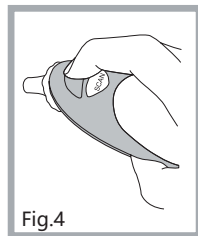

Fig.4
After taking a measurement, press the EJECT button to release the probe cover (see Fig. 4). Before each measurement, please ensure to use a new and clean probe cover.
3. The thermometer display will show three short dashes with a flashing °C or °F, indicating that the thermometer is ready for measurement (See Fig. 4).